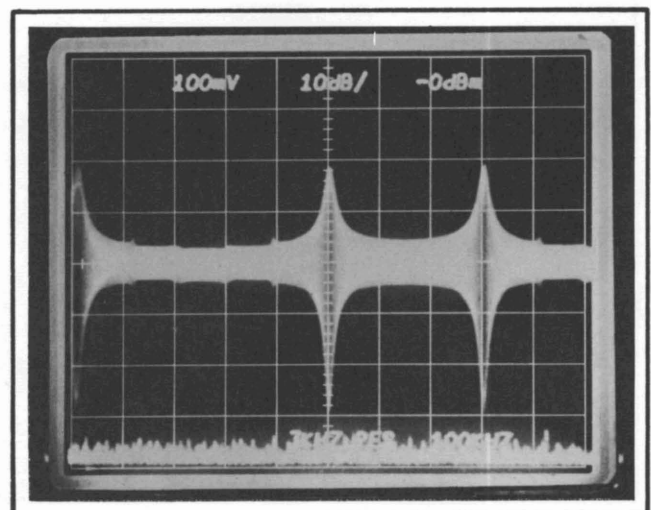

Fig. 4-6. Beat signals at the output of the error amplifier (W69).
f. Check that the beat signal amplitude, over the frequency range of the 7L12 (Fig. 4-6), equals or exceeds 4 V P-P. (Beat signals will appear periodically as the oscillator sweeps the 1st LO through multiples of the 2.21 MHz reference oscillator.) Approach these beats slowly to make a good measurement.